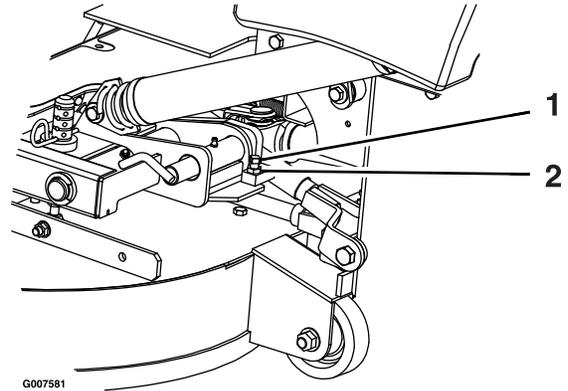

**Figure 68**
3. Loosen the 6 door hinge nuts (Figure 68).
4. Open the door and place a 3/8 inch (9.5 mm) rubber strip or 3/8 inch (9.5 mm) diameter hose between the hopper and the hopper door (Figure 68).